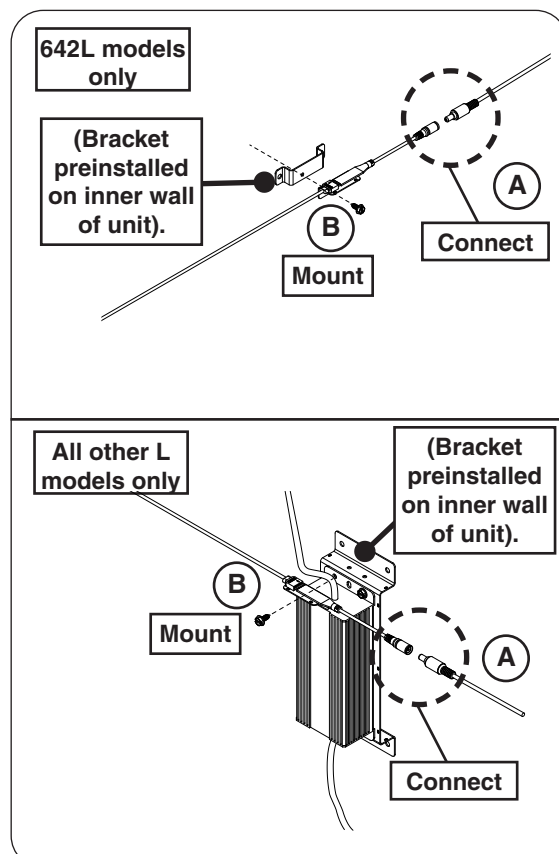

Fig. 31-2 Connect and mount LED strip
642L Models: connect DC plug (A). Then mount the wire assembly to the bracket on the inner wall using the pre-installed screw (B). See Fig. 31-2.
All Other L Models: connect DC plug (A). Then mount the wire assembly to the power supply bracket on the inner wall using the pre-installed screw (B). See Fig. 31-2.